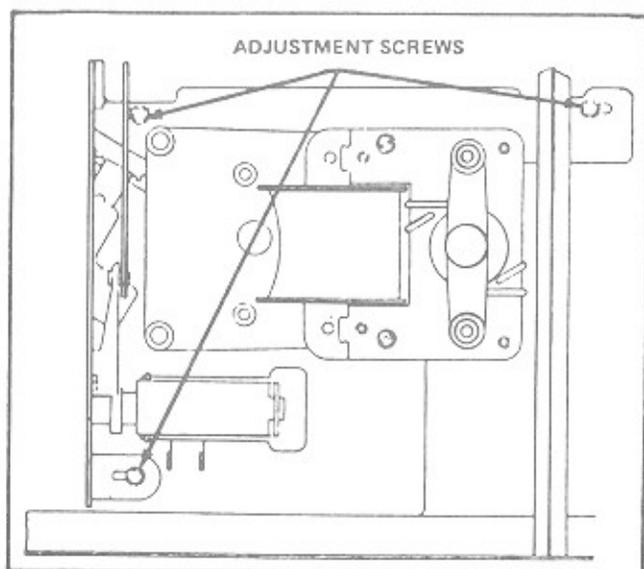

Figure 3-16. Magazine Adjustment
5. With sprag wheel locked, move magazine until record is centered between belt guides. (Adjustment screws will be approximately centered in slots. See Figure 3-16.)